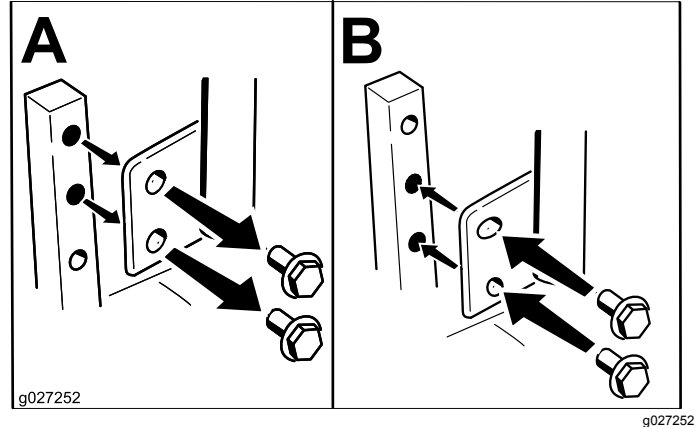

Figure 16
You can adjust the motion-control levers higher or lower for maximum comfort (Figure 16).
2. Loosen the lower bolt just enough to pivot the control lever forward or rearward (Figure 16).